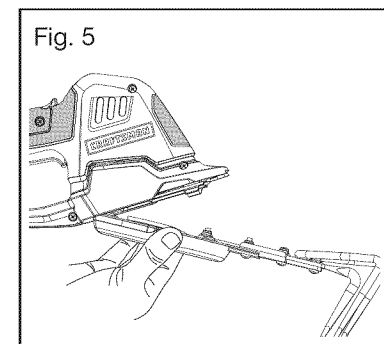

Fig. 5
### Remove the attachment (Fig 5)
2. To remove the attachment assembly from the tool, push the quick-release button, carefully grasp the attachment and rotate it down and out of the tool. (Fig. 5)